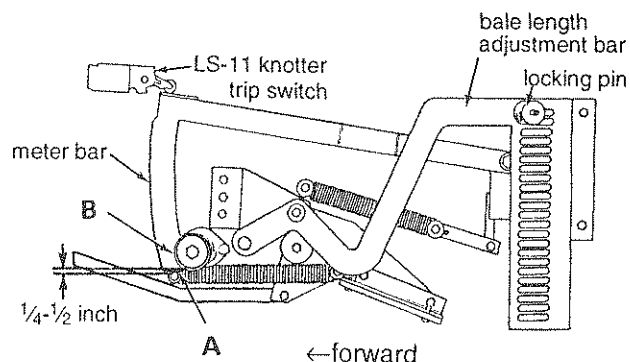

Fig. 48
2. Raise the meter bar until cam contacts switch arm roller and the switch clicks to operate, see **Fig. 48**.
4. Measure from top of roll pin, (A) to bottom of guide washer, (B).